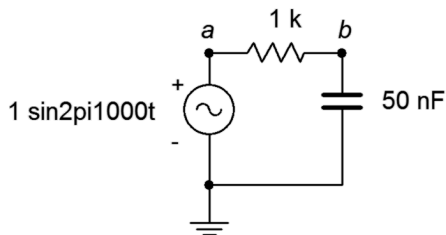

Figure 2.11
16. Determine the impedance of the circuit of Figure 2.11.
17. Determine the impedance of the circuit of Figure 2.11 using a frequency of 10 kHz.
18. For the circuit of Figure 2.11, determine the circulating current and the voltages across each component. Draw a phasor diagram of the three component voltages. Also find the time delay between the voltages of the components.
19. For the circuit of Figure 2.11 using a frequency of 10 kHz, determine the circulating current and the voltages across each component. Draw a phasor diagram of the three component voltages and determine the time delay between the capacitor and resistor voltages.
58. Redesign the circuit of Figure 2.11 using a new capacitor such that the current magnitude from the source is $100\ \mu\text{A}$.
60. For the circuit of Figure 2.11, determine a new capacitor such that $|X_C| = R$.